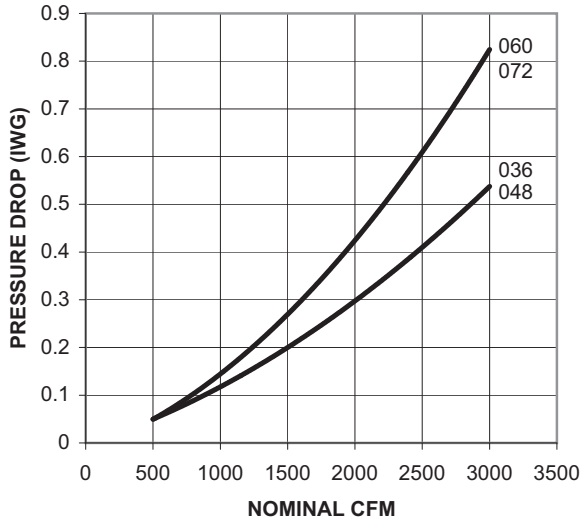

Figure 23: Pressure Drop Across Coil
- Knowing the pressure drop across a dry coil, the actual CFM through the unit can be determined from the curve in Pressure Drop vs. Supply Air CFM (Figure 23).